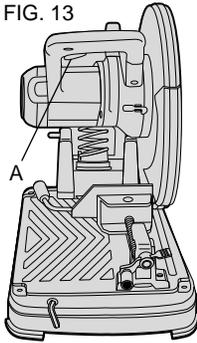

FIG. 14
Procedure For Permanent Mounting (Fig. 14)
- Drill four holes 5/16" through the work surface. (Figure 14)